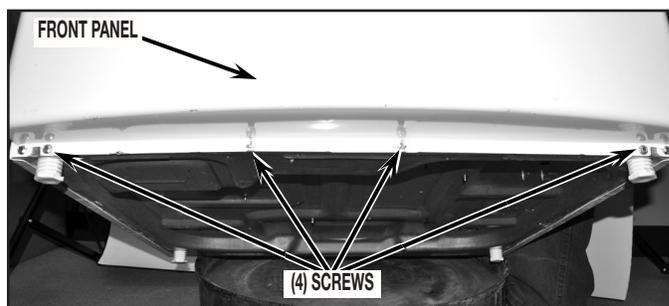

FIGURE 7
11. Remove front panel by first removing four (4) screws from bottom of front panel as shown in *Figure 7*.